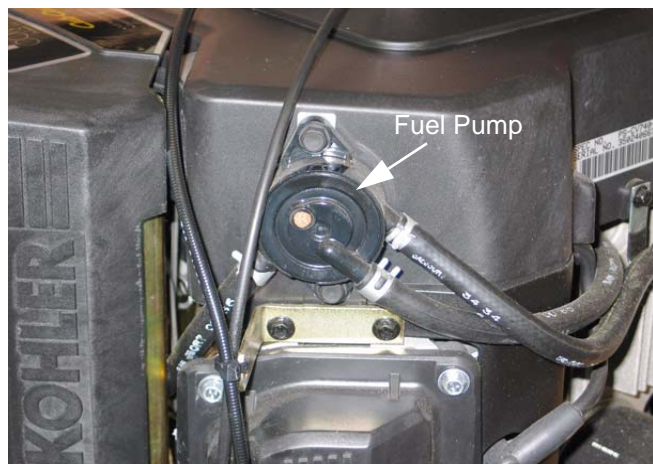

Figure 6.5
- 6.5. On current models of the 1000 and 1500 Cub Cadet, the fuel is moved from the tank to the carburetor by a vacuum-driven fuel pump that is mounted to the engine. See Figure 6.5.